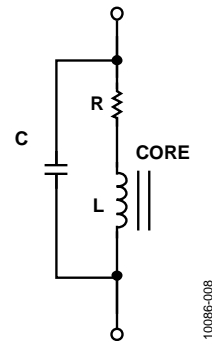

Figure 8.
When the switch closes, the full voltage (V) appears across the inductor. The current in the inductor will ramp at a rate of V/L. When the switch is opened, the current will ramp down at the same rate, and a large voltage will be generated as the magnetic field collapses. This magnetic field is the energy storage mechanism. A simplified model of an inductor can be seen in Figure 8.